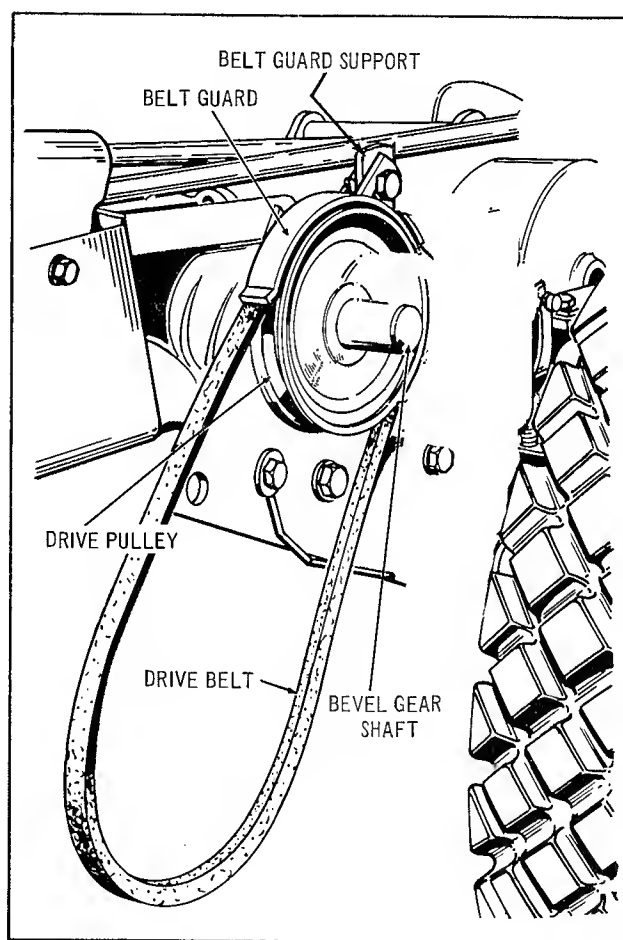
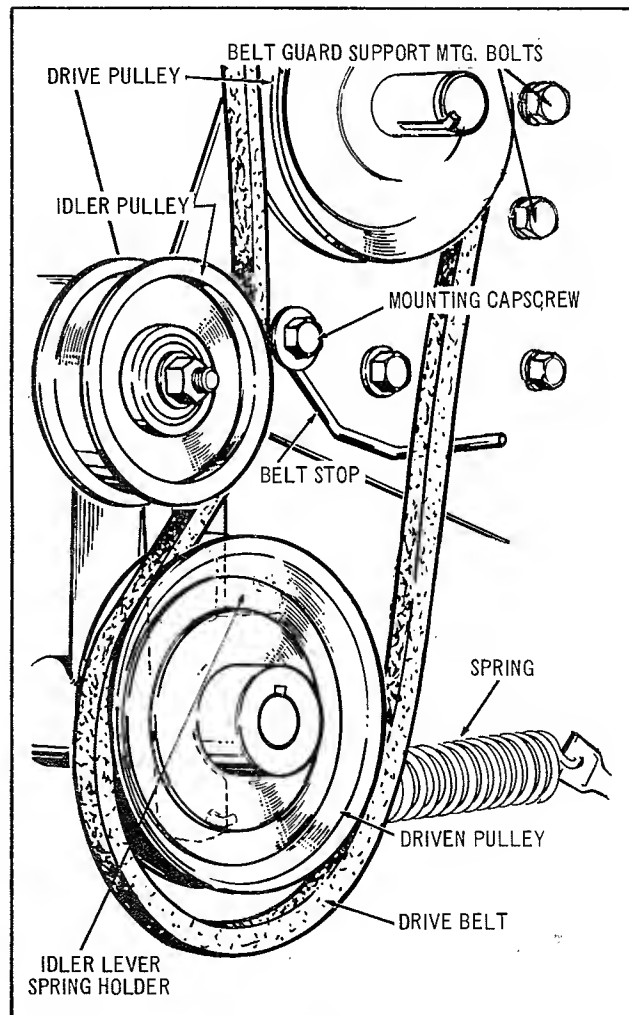

FIG. 15
FIG. 19
1. Mount Drive Pulley to Shaft of Bevel Gear Assembly See Figure 15, and secure in place with Key and Set Screw. Hub of Drive Pulley is to face inward. Place Drive Belt on Drive Pulley and mount Belt Guard Support to inside surface of Side Plate nearest Drive Pulley. See Figure 19 for Mounting Bolt location. Attach the Belt Guard to the Guard Support as shown in Figure 15. Allow approximately  $3/16''$  clearance between Belt and Guard.
5. Remove Front Hex. Cap Screw from Pull Bar. Replace with stud 157273 provided. Short end inserted. Slip on Handle Assembly and tighten with Hex. HeadLock Nut to permit free movement of handle. Mount "V" Belt in place on driven pulley as shown in Figure 19 and attach spring to hole provided in the bottom of the Bracket Assembly. Hook
other end of the spring to the Handle Assembly. Mount Belt Stop as shown with 3/8" Bolt, Flat Washer, Lock-washer, and Hex. Nut. When Implement is attached to tractor with Idler Pulley engaged, 1/8" clearance between Belt Stop and back of "V" Belt is required. NOTE: "V" Belt runs under Idler Pulley. See Figure 19.